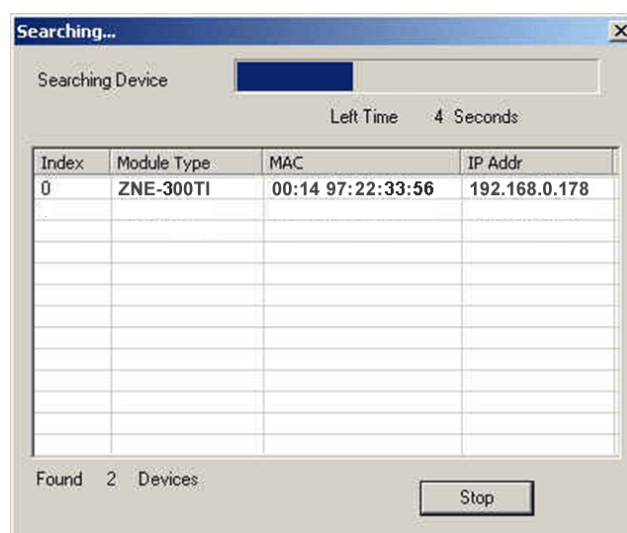

Figure 4-2: Searching the devices in the network
4. Click **Search** button to find out the IP address of the module, as Figure 4-2 shows.